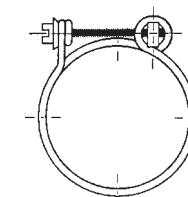

Figure 3
- This clamp (Figure 3) evenly distributes an extra high torque level. It will not damage the hose unless the cover compounds are tender, such as silicone. It is also inexpensive.